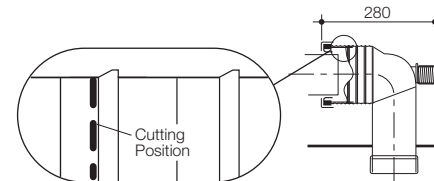

Fig. 5
- 4- Determine and mark cutting position of pan connection end from finished wall and remove connector, as detailed in Fig. 5.
- 5- Cut pan connection end at the front of the serration which is nearest to the mark. Remove any rough edges and chamfer with fine file, as detailed in Fig. 5.